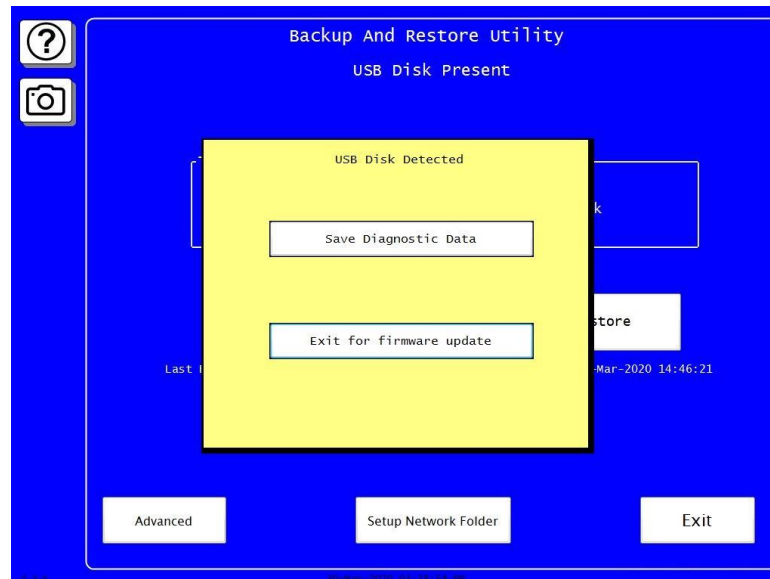

Figure 1. “USB Disk Detected” Message
1. Insert the USB disk into the SmartPAC PRO USB connector on the front of the unit. When the “USB disk has been inserted” message appears, press **Cancel** (Figure 1).